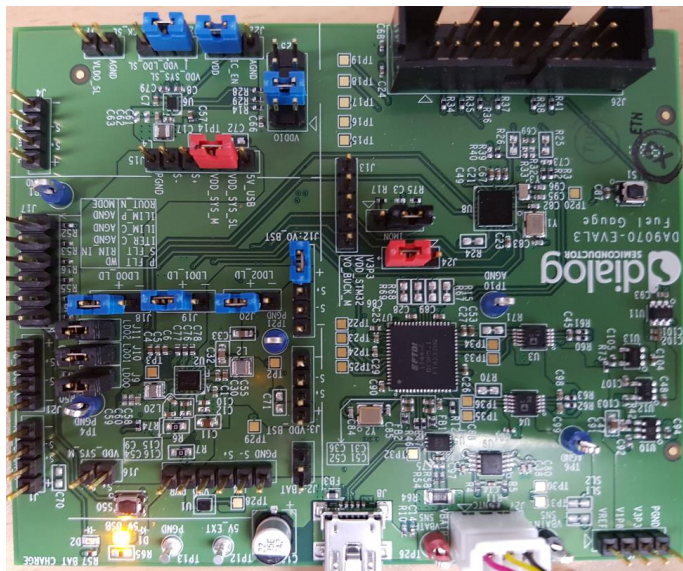

Figure 15: The Jumper Configurations for Finding Current Offset
1. Remove the jumpers of **J2**, see Figure 15.